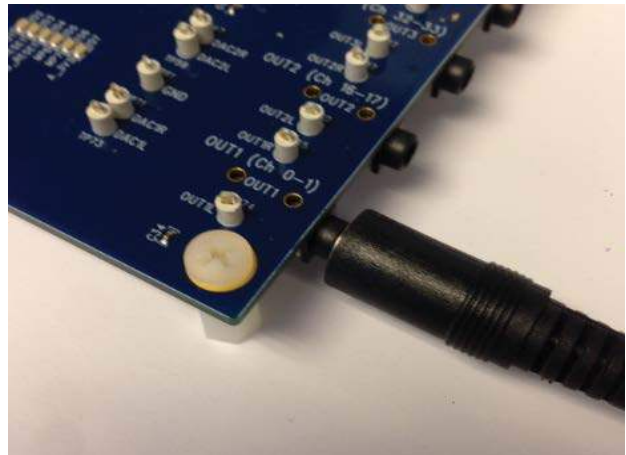
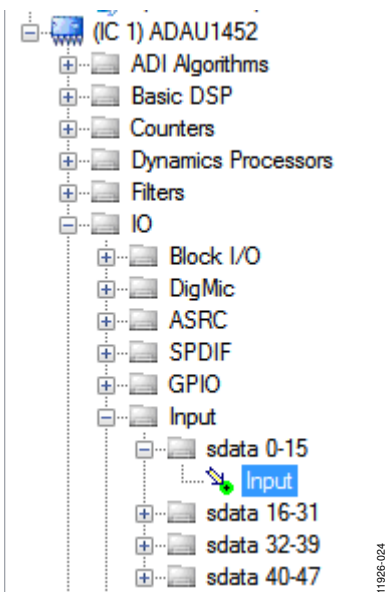
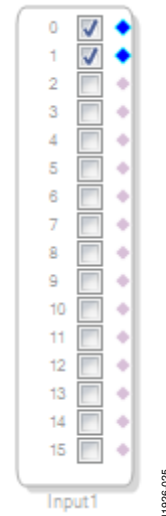

Figure 14. Analog Stereo Output Connection
Figure 22. Input Block Selection
Figure 23. Input Block
Figure 13 shows the input source connection. Figure 14 shows the output connection. Figure 15 shows the location of the connectors on the board.
- i. To add an **Input** block, from the **ADAU1452 > IO > Input > sdata 0-15** folder, click **Input** (see Figure 22) and drag it into the project space to the right of the toolbox (see Figure 23). (By default, Channel 0 and Channel 1 are selected. This matches the analog audio source hardware connections shown in Figure 13 and Figure 14; therefore, no modifications are needed.)